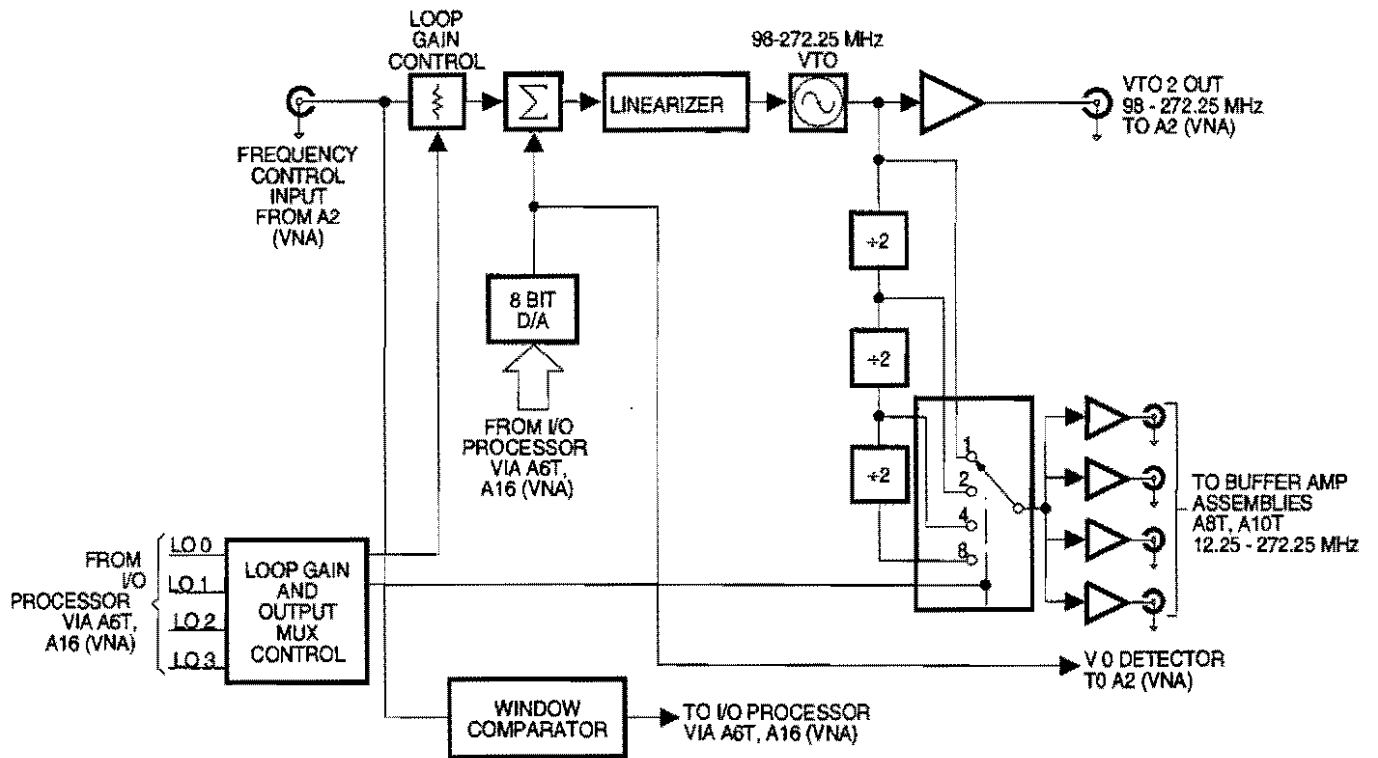

Figure 8-4. A4T LO 2 PCB Block Diagram
The A4T LO 2 PCB (Figure 8-4) provides the second local oscillator (LO) signal to the A8T and A10T Buffer Amplifiers. There it mixes with the first IF signal to produce the second IF of 2.25 MHz. The A4T circuitry consists of a loop gain control circuit, a summation amplifier, an 8-bit digital-to-analog converter (DAC), a linearizer, a voltage-tuned oscillator (VTO), a series of divide-by-2 frequency dividers, a window comparator, a frequency range selection circuit, and several buffer amplifiers.